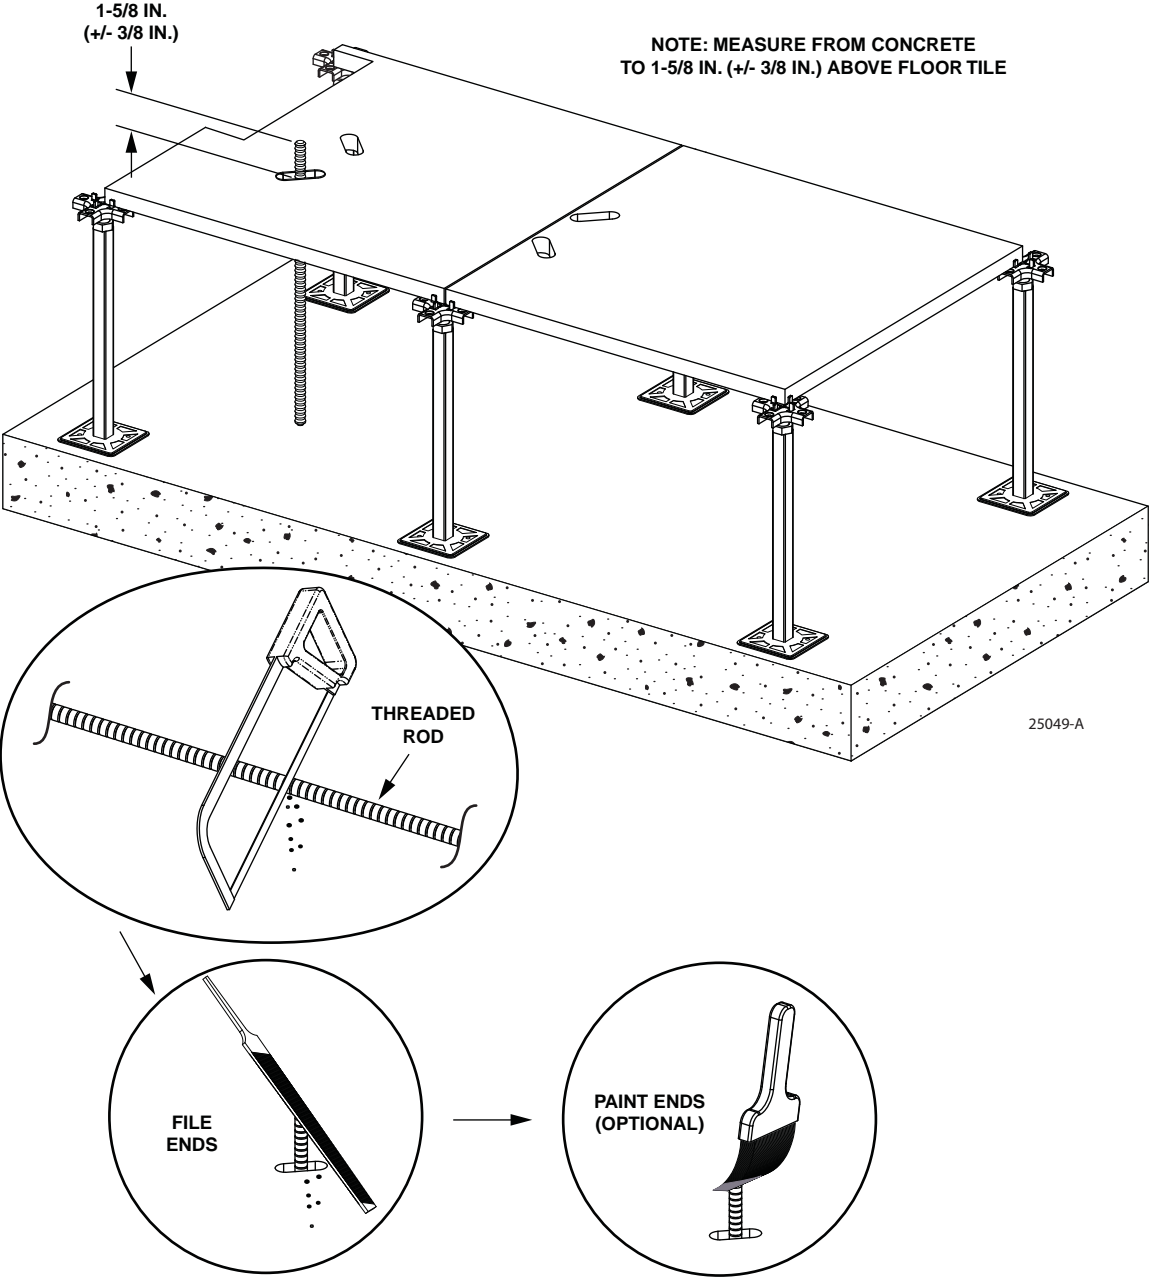

Figure 7. Cutting Threaded Rod
6. Cut threaded rod to floor height +1-5/8in. (+/- 3/8 in.) (four places). Refer to Figure 7.